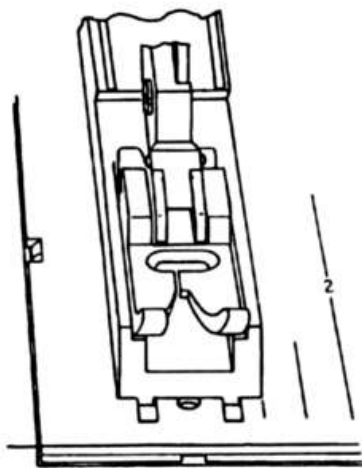

Fig. 6
- Insert sewing foot gauge No. 63-114690-39 from behind under the zigzag foot and into the cutouts of the needle plate (fig. 6).